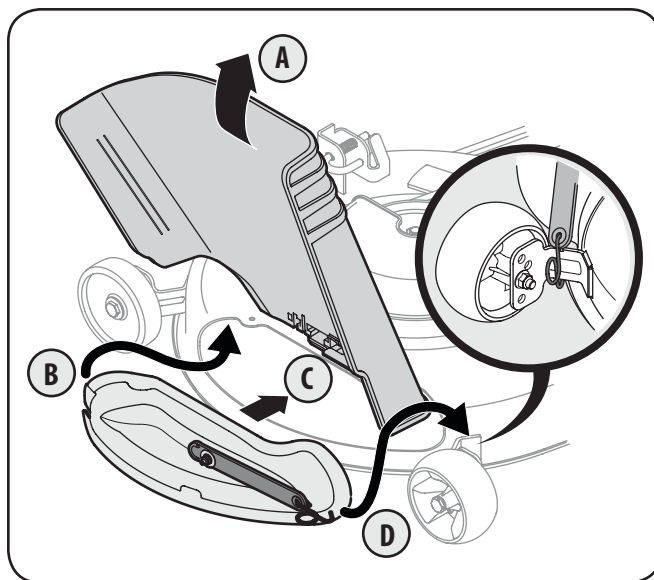

Figure 3-5
1. Lift the discharge chute up (A). See Fig. 3-5.
2. Insert the mulch plug into the deck discharge opening by fitting the tab on the rear side of the mulch plug inside the deck (B) and pivoting the mulch plug into place (C).
3. Pull and stretch the retaining strap on the mulch plug over the deck wheel bracket (D) on the deck and hook onto the bottom of that bracket as seen in the inset of Fig. 3-5.